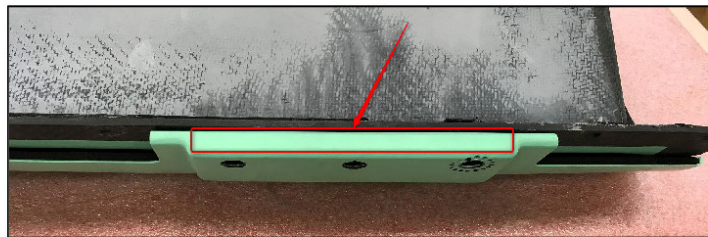

Figure 3: RH Cover Missing Cutout (LH Opposite)
3. If the cover looks like Figure 3, missing the indicated cutout, proceed to Section 2.2.